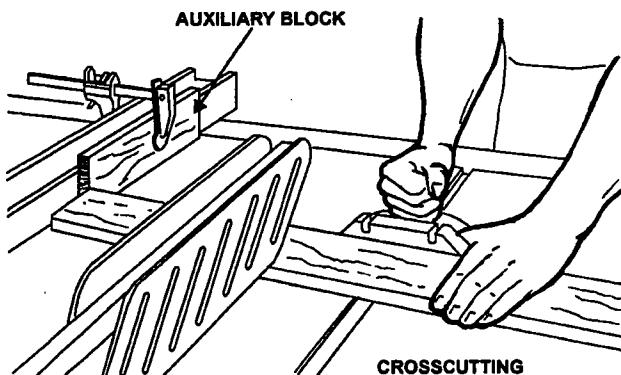

FIGURE 18
1. The sawing process where the workpiece is fed cross grain into the saw blade using the miter gauge to support and position the workpiece is called crosscutting, Figure 18. Crosscutting should never be done freehand nor should the fence be used as an end stop unless an auxiliary block is clamped to the front of the blade area such that the cutoff piece comes free of the block before cutting starts. Length stops should not be used on the free end of the workpiece in the cutoff area. Do not crosscut workpieces shorter than 6". Before starting a cut, be sure the miter gauge is securely clamped at the desired angle. Hold the workpiece firmly against the table and back against the miter gauge. Always use the saw guard and splitter and make sure the splitter is properly aligned.
shown in Figure 18. When using it in this position, hold the workpiece against the gauge with the left hand and use the right hand to advance the workpiece. When using the right hand slot for miter and compound crosscutting so that the blade tilts away from the gauge, the hand positions are reversed.